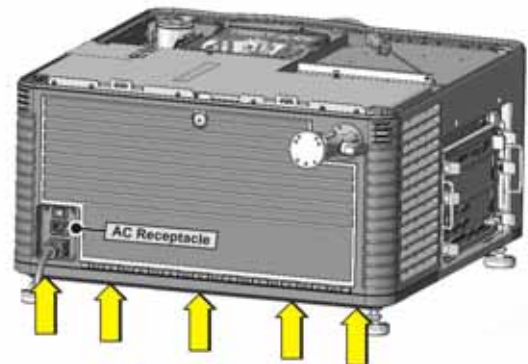

Figure 5-8 Remove Rear Access Door Skin
4. Use a 4mm hex key to remove the five socket head cap screws along the bottom edge of the projector (**Figure 5-8**).